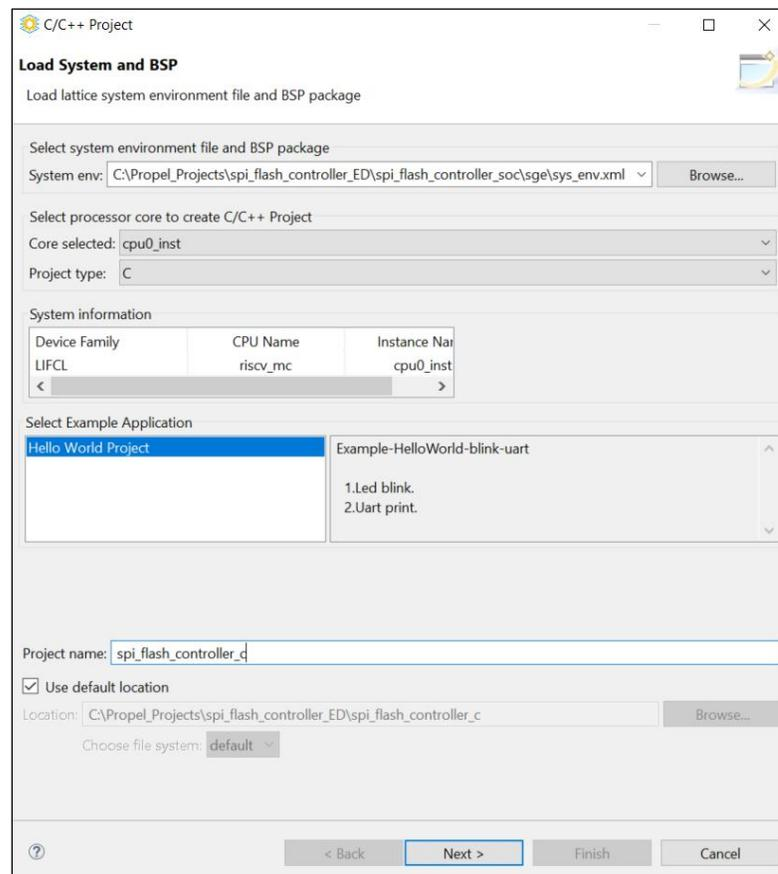

Figure 6.8. C/C++ Project Load System and BSP
3. Generate a new Lattice C/C++ project by selecting **File > New > Lattice C/C++ Project**. The **C/C++ Project Load System and BSP** window opens as shown in Figure 6.8. Update the **Project Name** field, then click **Next** followed by **Finish**.